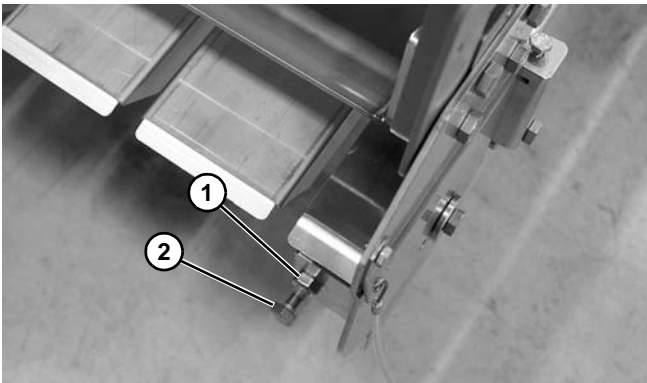

Figure 87
- If needed, raise idler tail and loosen nut (Figure 87, item 1). Tighten or loosen screw (Figure 87, item 2) to move idler tail up or down to level with conveyor bed rail. Ensure that nuts are tight after leveling.